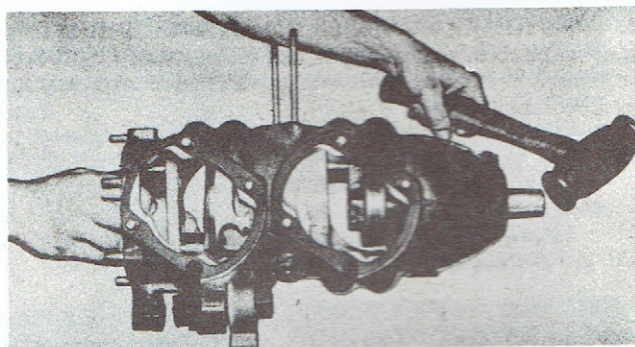

Figure 4-9. Driving Out Crankshaft
- c. While supporting the rear end of the crankshaft, drive it backwards by striking the taper end of the crankshaft with a rubber mallet. If the crankshaft is still not free of the engine after the taper end is driven into the crankcase, continue the driving procedure using a brass or copper rod until the crankshaft is free and can be pulled out. (See figure 4-9.)